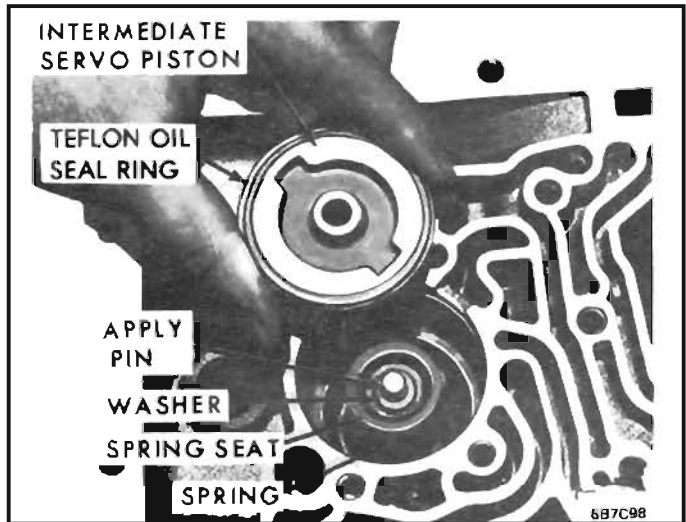

Figure 28 Intermediate Servo Assembly
26. Remove intermediate servo piston, washer, spring seat and apply pin. See Figure 28.